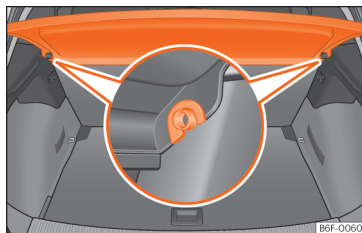

Fig. 144 In the boot: removing and installing the shelf.
- Remove the rear shelf from the side supports >>> **Fig. 144** by pulling it upwards and then take it out.
- Insert the cover horizontally so that the “recess” fits onto the axis of the supports >>> **Fig. 144** and press down until it engages.